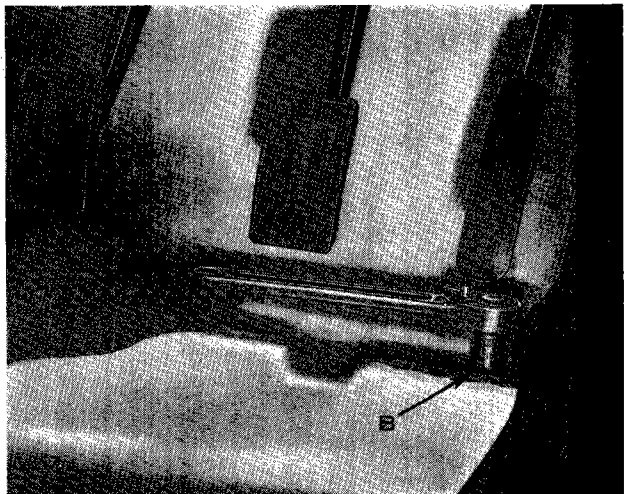

Fig. 4. Toe board mounting points
- one each side of the front toe board (B) (Fig. 4);